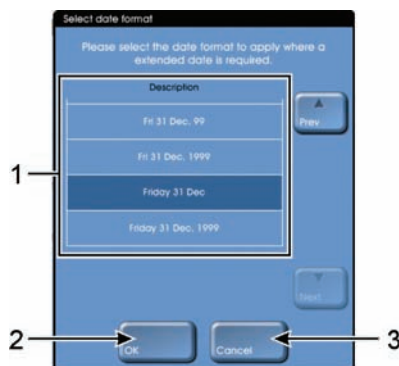

Figure 122: Select format dialog box with format list (1), OK button (2) and Cancel button (3)
3. Select the required format from the list in the select time/date format dialog box then select the **OK** button to confirm the change (see Figure 122).